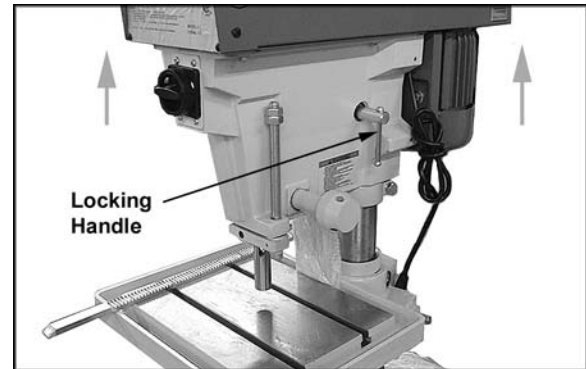

Figure 2
1. *Figure 2:* Loosen locking handle on head and raise the head toward the top of the column. **NOTE: Use an assistant to help raise the head.** Re-tighten locking handle to secure head in position.